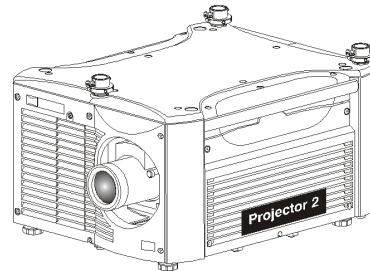

Figure 2-17 Adjust the Feet
- Place 1 projector on its side to access its adjustable feet, and stacking legs (*Figure 2-17*).